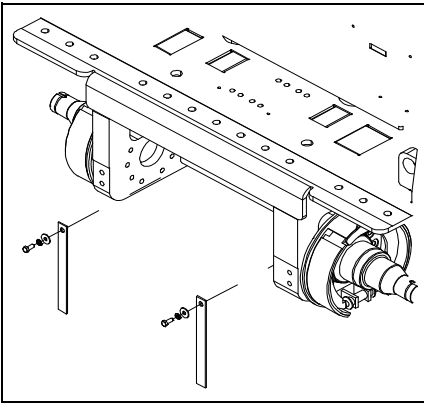

Figure 5-2: Static Discharge Straps
At the beginning of each shift check the condition of the static straps(2) located on the front of the truck attached between the two front wheels to ensure that they are attached and are dragging the floor. Replace if missing to ensure proper truck operation. **See Figure 5-2.**